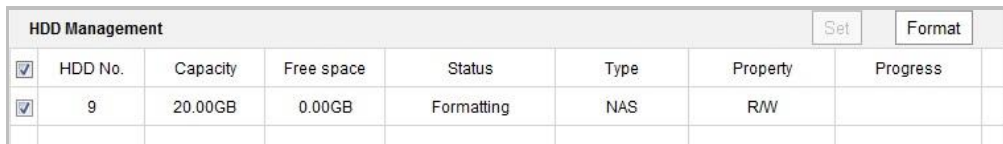

Figure 7-9 View Disk Status
3. When the initialization completed, the status of disk will become **Normal** as shown in Figure 7-9.